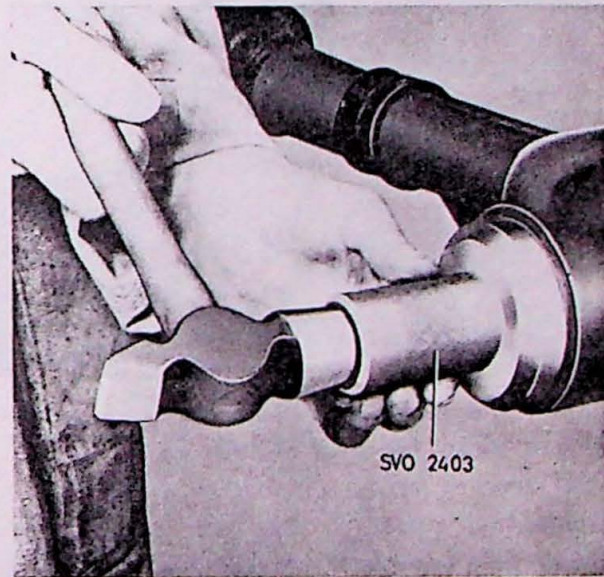

Fig. 5-7. Fitting the oil seal
3. Fit a new taper washer and fit the new oil seal with tool SVO 2403, Fig. 5-7.